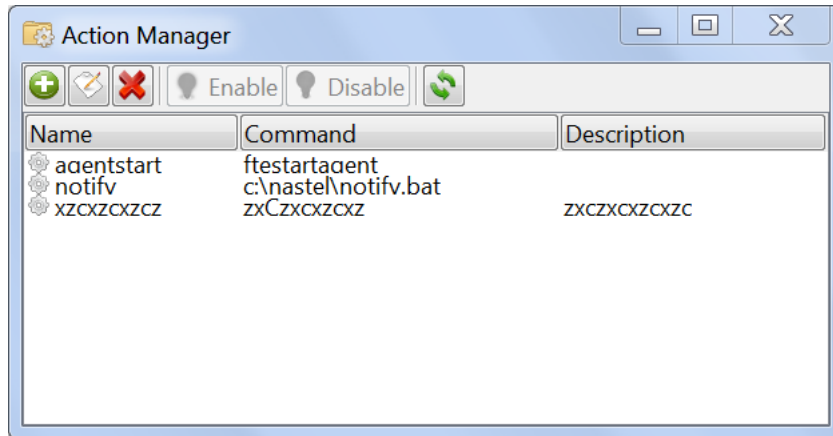

Figure 4-92. Action Manager Screen
6. Click **Save**. The action will be listed on the Action Manager screen (*Figure 4-92*).